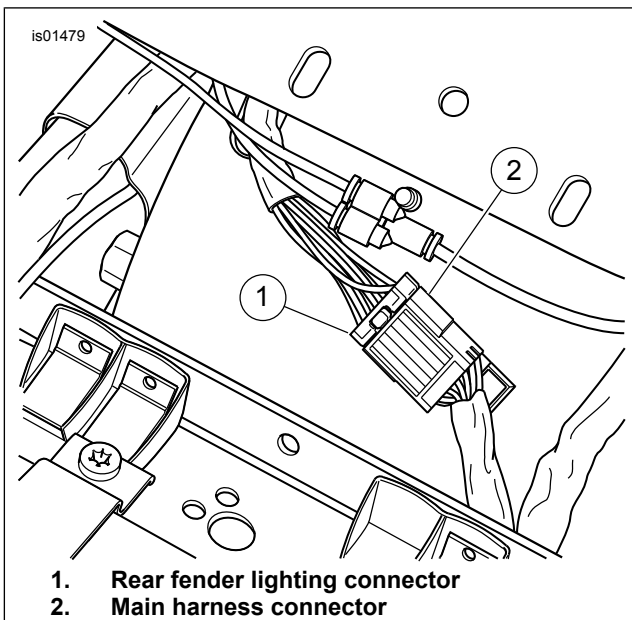

Figure 1. Typical Rear Fender Lighting Connector (FLHTC shown)
1. See Figure 1. Locate the rear wiring harness coming out of the rear fender in the area under the seat. **Touring models:** Disconnect the rear fender lighting socket housing [7B] (1) from the main harness pin housing [7A] (2). **Trike models:** Disconnect the tail and turn signal converter module socket housing [7D] (1) from the main harness pin housing [7A] (2).